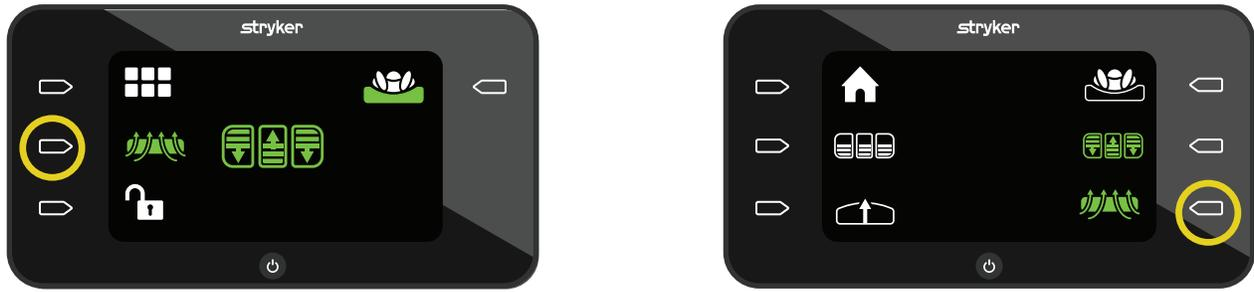

Figure 39 – LAL on
2. To turn off LAL, press the **Action** button next to the **LAL on** icon (Figure 39).